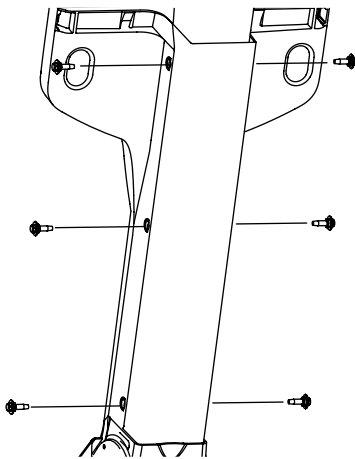

Figure 2-6
- Secure the console in place with the six shoulder screws. See Figure 2-6. Torque the shoulder screws to 60 in/lbs (+/- 20%).